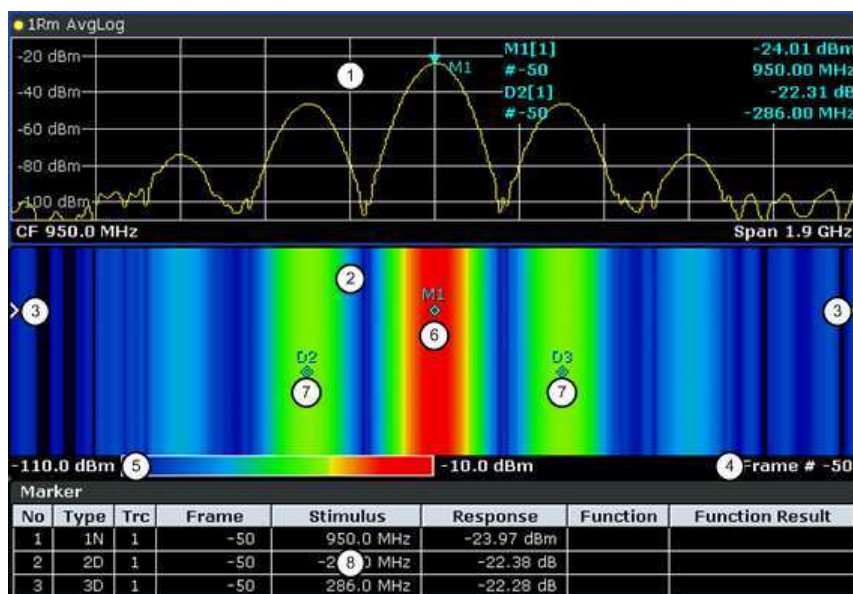

Fig. 3-48: Screen layout of the spectrogram result display
- Spectrum Analyzer result display (1 in figure 3-48)